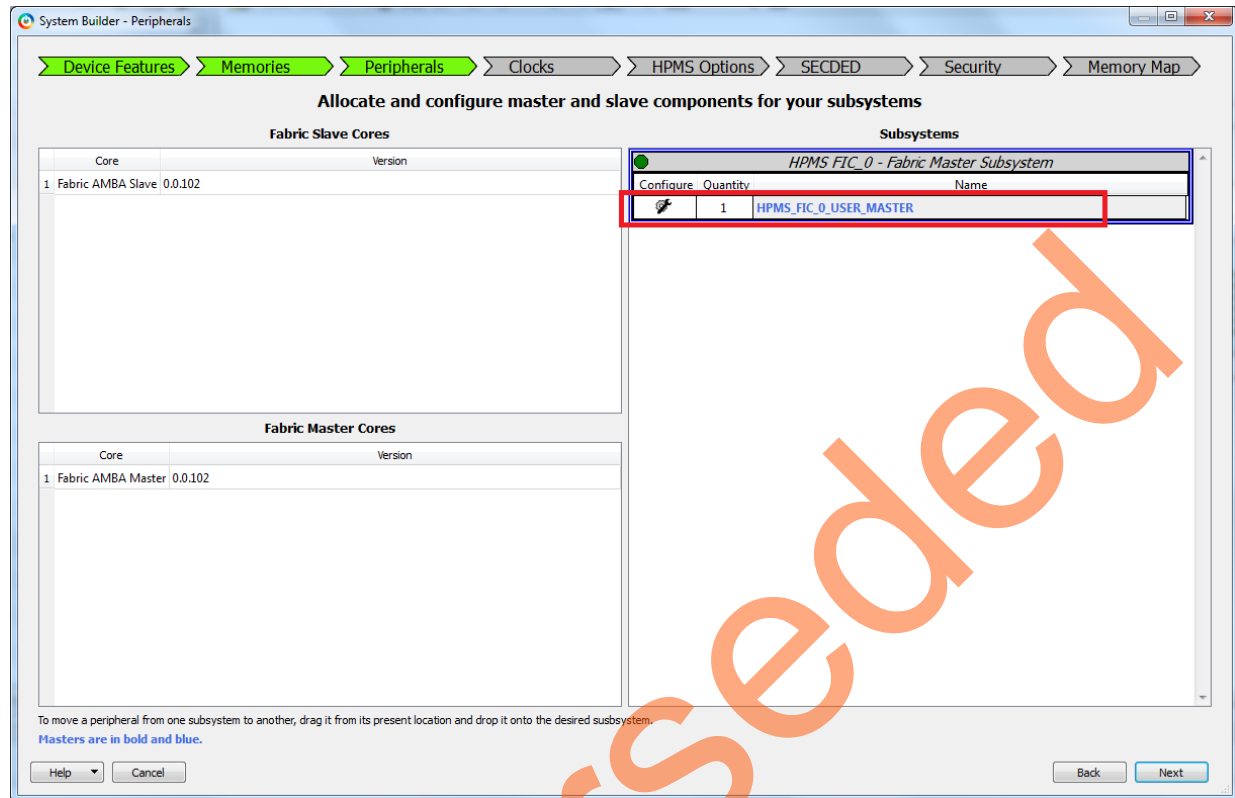

Figure 5 • IGLOO2 - Peripherals Page
3. In the **Peripherals** page, add **HPMS FIC_0-Fabric Master Subsystem** to provide the AHBL master interface to the user logic, as highlighted in Figure 5.